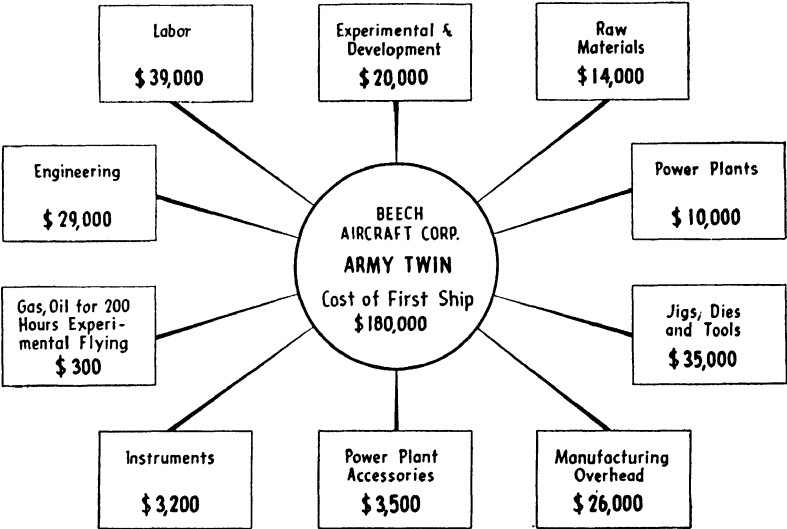

Fig. 149.
1. Make a bar graph representing the cost of creating a new type of aircraft (see Fig. 149).